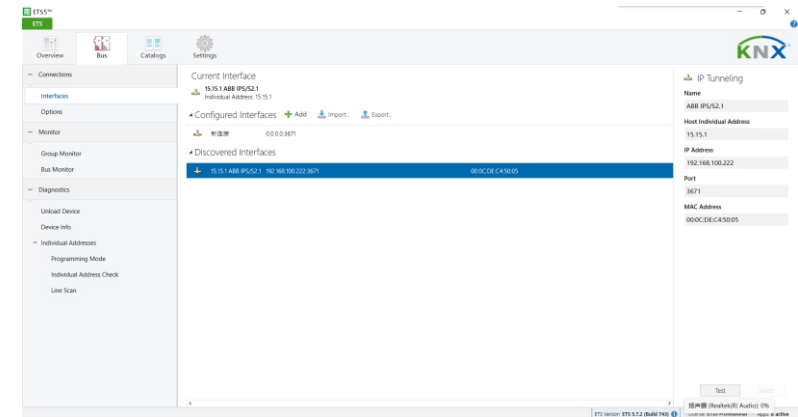

Figure 17
2.4. Create project, here we take KNX IP interface as an example. Click on “BUS” on the top, then click on “Interfaces” under “Connections” on the left column. The KNX IP interface will be discovered automatically and shown under “Discovered Interfaces” as shown in Figure 17.